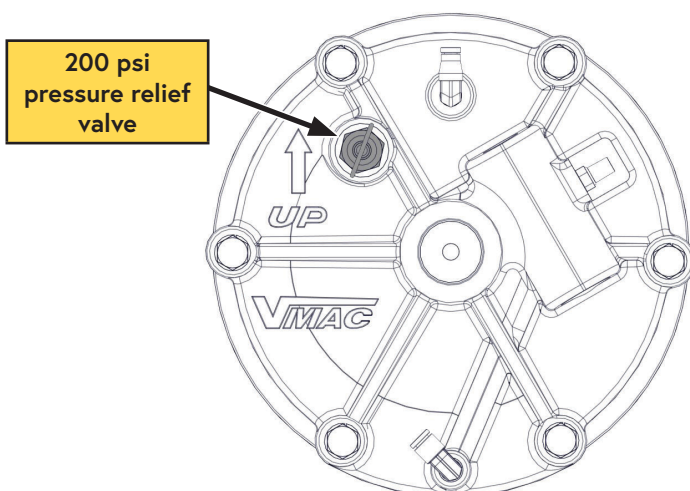

Figure 50 — Pressure relief valve
- ☐ Apply thread sealant and replace the pressure relief valve (Figure 50).